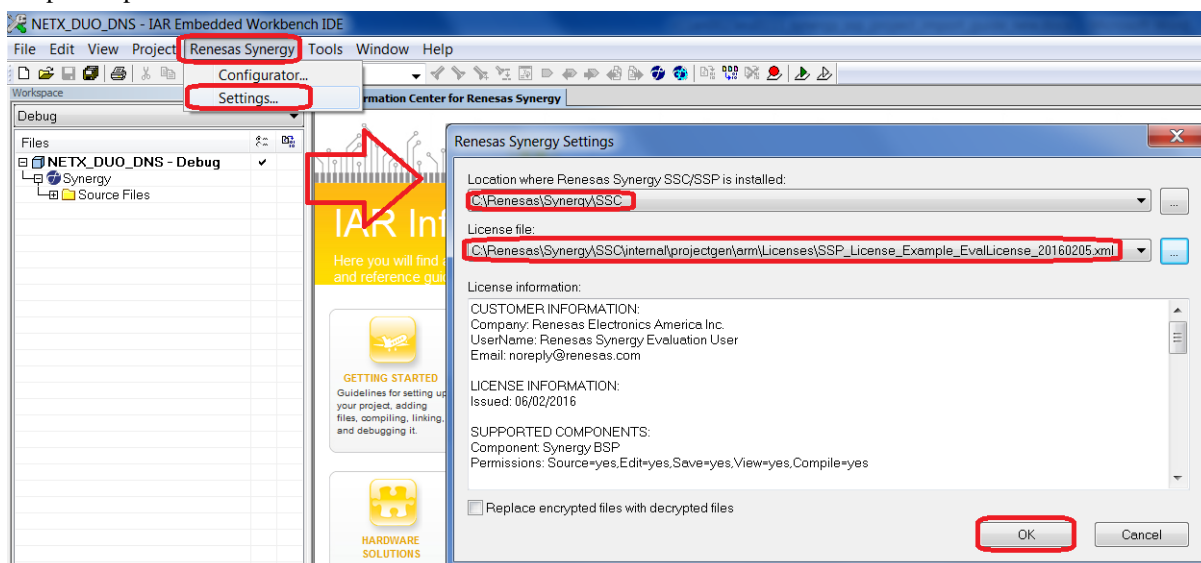

Figure 1.3 SSC/SSP settings
1. Click **Renesas Synergy >Settings** to open the **Renesas Synergy Settings**. If the License file and the SSC/SSP folder are already configured, the License area and SSC/SSP location of the form is as shown in Figure 1.3. If so, skip to step 3.